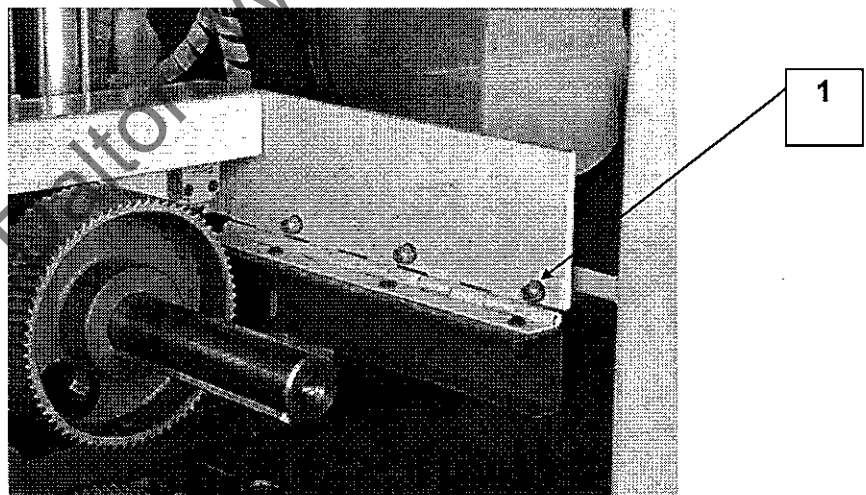

Figure 4.1.3
- 6 Infeed trip device (1) which will trip the operation of the machine feed. The spindles will continue to run. This trip level is set through the height of the beam setting. (See Figure 4.1.3).